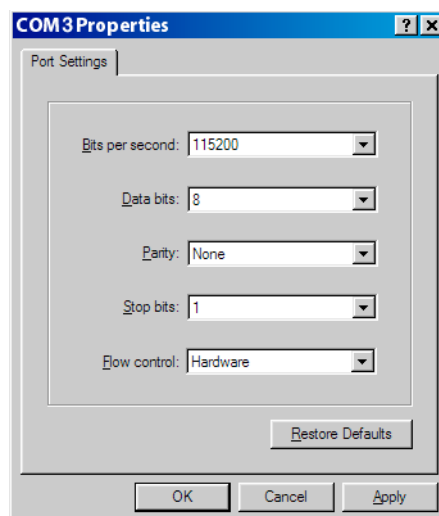

Figure 3: Setting the COM port properties
8. In the ASCII setup window, click the check boxes or enter the values as required to match the screen in **Figure 3**.